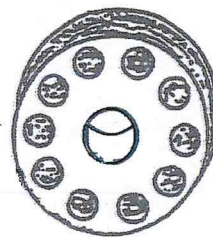

Figure 8
1. Hold the bobbin spool (Fig. 8) so that it will go in to the case in a counter-clockwise position.